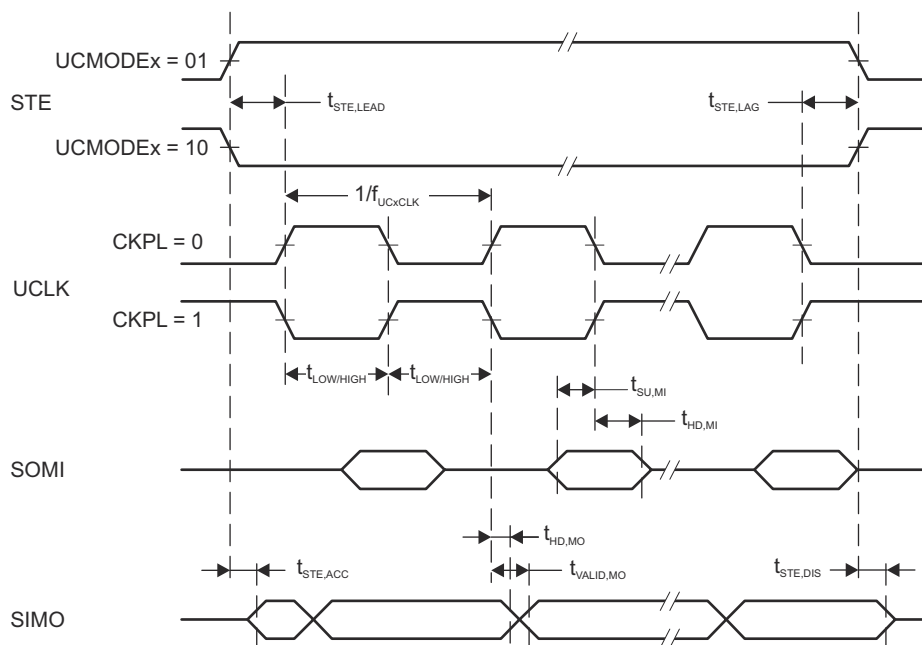
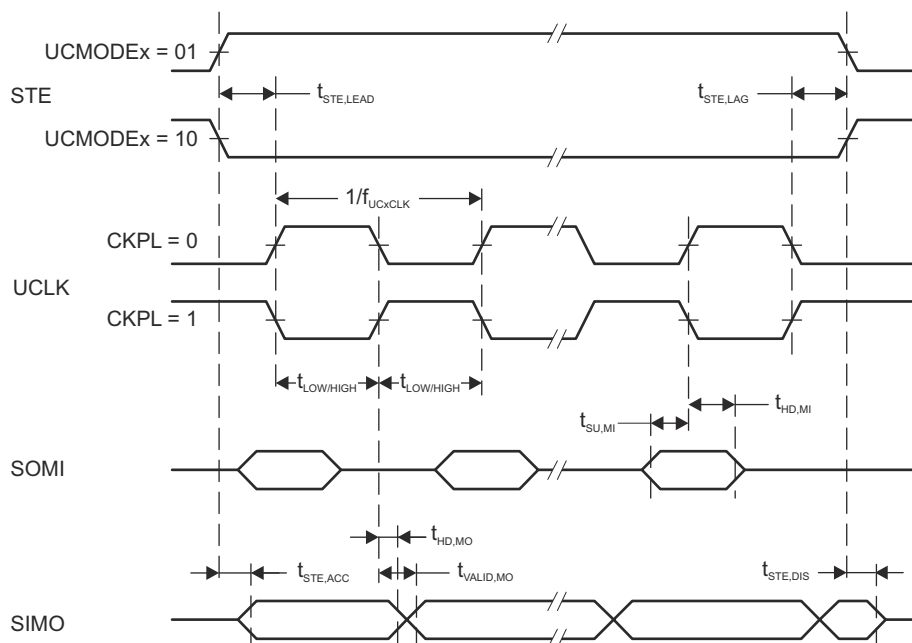

Figure 8-13. SPI Master Mode, CKPH = 0
Figure 8-14. SPI Master Mode, CKPH = 1
- (2) Specifies the time to drive the next valid data to the SIMO output after the output changing UCLK clock edge. See the timing diagrams in Figure 8-13 and Figure 8-14.
- (3) Specifies how long data on the SIMO output is valid after the output changing UCLK clock edge. Negative values indicate that the data on the SIMO output can become invalid before the output changing clock edge observed on UCLK. Refer to the timing diagrams in Figure 8-13 and Figure 8-14.